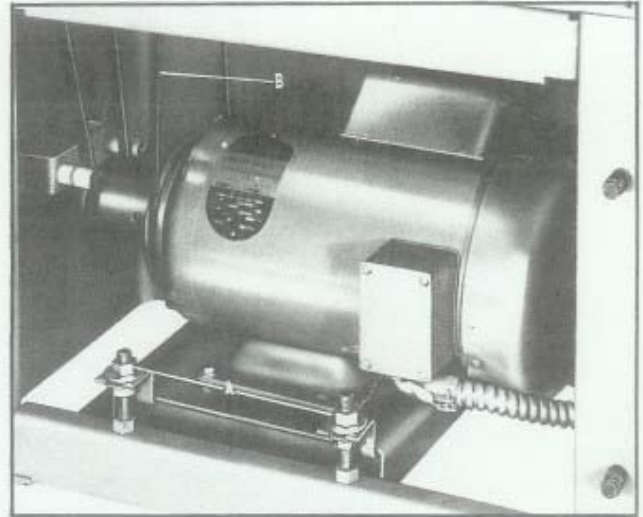

Fig. 25.
2. Remove nuts (A) Fig. 25, and block up motor plate to release tension on the cutterhead belt (B).